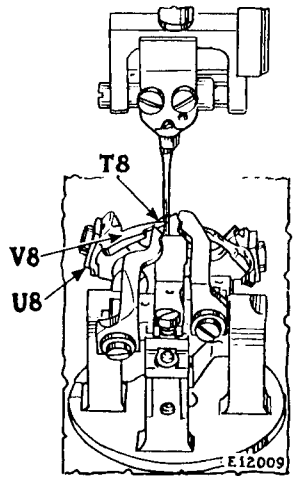
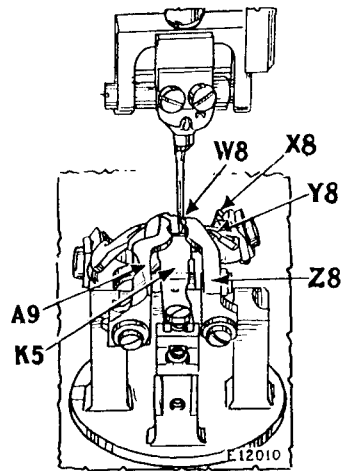
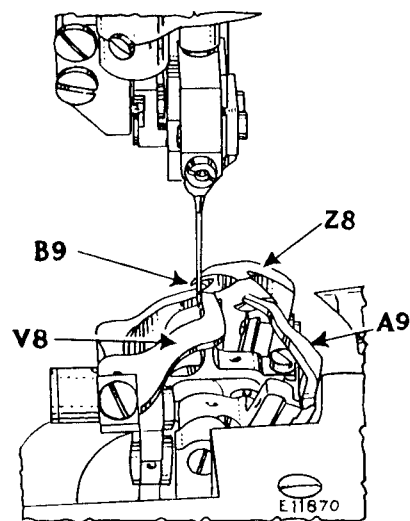

Fig. 14. Showing Correct Timing of Non-Threaded Looper
Fig. 15. Showing Correct Timing of Threaded Looper
Fig. 18. Showing Correct Relative Positions of Loop Retainer and Non-Threaded Looper
When changing the width of bight or lateral throw of the needle, it will be necessary to adjust the loop retainer (A9, Fig. 15) and the non-threaded looper (V8, Fig. 14), as instructed below and on pages 34 and 36.
When replacing loopers, first remove work clamp plates and throat plate (12, Fig. 4), then place wrench on pattern wheel clamping nut (S5, Fig. 9) and turn until stop lever operating plate (Z5, Fig. 9) rides on the pattern wheel ring (R5, Fig. 9), allowing the machine to be turned by hand. Place non-threaded looper (V8, Fig. 14) on seat of looper rocker (U8, Fig. 14) and turn machine until the needle bar, after descending to its lowest point, has risen so that the **lower timing mark** on needle bar is even with top of top needle bar bushing, and the point of the non-threaded looper has advanced to center of a true needle. At this position, the point of the non-threaded looper should be
adjusted to centre of needle, as shown at T8 in Fig. 14, and adjusted sidewise so that it just clears the needle.
The needle guard (K5, Fig. 15) should be set as close as possible to the needle without deflecting it. To set the needle guard in the correct position, loosen its two screws and move the needle guard forward or backward, as required, then securely tighten the two screws.
Turn hand wheel over until looper (Y8, Fig. 15) can be inserted on looper rocker seat (X8, Fig. 15), then turn machine until the needle bar, after descending to its lowest point has risen so that the **lower timing mark** on needle bar is even with top of top needle bar bushing and the point of the threaded looper has advanced to the centre of the needle. At this position, the looper point should be adjusted to centre of needle, as shown at W8 in Fig. 15, and adjusted sidewise so that it just clears the needle.
It is first advisable to adjust the right hand loop retainer (Z8, Figs. 15 and 17). The right hand loop retainer should be set in height so that it just clears the threaded and non-threaded loopers, or so that there is sufficient space between the top side
striking or dragging against the further side of the loop held upon the non-threaded looper, as shown in Fig. 18.
To replace and adjust left hand loop retainer (A9, Fig. 18), first obtain about the proper amount of bight required by the needle as instructed on page 33. This loop retainer should be set in height so that there is just sufficient space between the top side of the threaded looper and the underside of the loop retainer for the thread to pass through. It should also be adjusted side-wise so that, as the needle descends, it just clears it on the side, as shown in Fig. 16, which shows a side and top view of the left hand loop retainer correctly adjusted. The left hand loop retainer should be adjusted forward or back so that the needle in descending will penetrate the loop held suspended on its horn.
The above adjustment of the adjusting nuts (G2) on the looper driving bar (H2) should position the loopers correctly so that the point of the threaded looper (Y8, Fig. 15) and non-threaded looper (V8, Fig. 14) will be at the center of the needle on their respective strokes when the needle bar has risen, so that the lower timing mark on needle bar is even with the top of needle bar bushing. It may be found that the point of one of the loopers is ahead or back of the center of the needle. If such is the case, make sure that the distance between the points of the loopers is  $\frac{5}{16}$ " (measure by passing a  $\frac{5}{16}$ " shaft between the points so that the shaft just drags upon each of the points as the shaft is passed between). Then readjust the adjusting nuts (G2, Fig. 3) for the looper driving bar (H2, Fig. 3) up or down, as the case may be, to bring the point of the looper to the center of the needle. Any adjustment of the looper driving bar moving the looper to or from the center of needle will throw the other looper in the opposite direction, therefore each looper should be checked with respect to its own dip of the needle.
The loop retainer driving bar adjusting nuts (A2 and C2, Fig. 3) should now be positioned to raise or lower the driving bar (8), thus positioning the loop retainer seat on the carrier (O, Fig. 3) in a vertical position when loop retainer slide (B2, Fig. 3) is at its extreme throw. When the correct position of loop retainer driving bar is obtained, it will bring the point of the right hand loop retainer (Z8, Fig. 15) just to the further edge of the non-threaded looper (V8, Fig. 14) as the non-threaded looper advances and the right hand loop retainer remains stationary. Should the right hand loop retainer overlap or fail to come up to within a few thousandths of the further edge of the non-threaded looper, it will be necessary to adjust the loop retainer by removing or adding shims, as referred to on page 37. After making the adjustments to the looper driving bar (H2, Fig. 3) and the loop retainer driving bar (8, Fig. 3), ratchet the machine as referred to on page 61 to see that there is no bind to the adjusting nuts as the looper bracket (M2, Fig. 3) is rotated.
When replacing a looper driving crank (D2, Fig. 3) to the looper frame (W, Fig. 3), position the looper driving crank gear in proper mesh with the looper driving gear so that the timing marks on each gear are in line with each other. Turn the looper driving crank until the set screw on the crank gear is downward and in direct line with the screwdriver hole in the bottom edge of the looper frame (W, Fig. 3) and holding the driving gear and crank gear in this position, turn the looper driving crank (D2, Fig. 3) so that the  $\frac{3}{16}$ " hole (E2, Fig. 3) in its flange is to the left and the lower edge of hole is over and exactly in line with the top edge of the left hand counterbored screw hole (F2, Fig. 3) in the flange of the looper driving crank bushing which is directly under the flange of the looper driving crank (D2) when looper frame (W) is in an upright position, then slightly tighten set screw. Now place looper frame (W) on the machine as instructed on page 37. After making sure that the looper driving bar (H2) is assembled with the lower adjusting nut (G2, Fig. 3) flush with the lower end of the looper driving bar (H2), as instructed on page 39, set the non-threaded looper (V8, Fig. 18) so that the forward edge of the non-threaded looper (V8) seat is flush with the forward edge of the seat on the looper carrier (P8, Fig. 5). Turn the hand wheel (D, Fig. 2) until the needle bar, after descending to its lowest point (on the depth stitch or vibration nearest to the non-threaded looper) has risen so that the lower timing mark on needle bar is even with the top of the top needle bar bushing and advance or retard the looper driving crank (D2, Fig. 3) a very slight amount until the point of the non-threaded looper (V8, Fig. 18) is opposite the center line of the needle. (This may be done by turning the hand wheel (D) over until it is noted that the looper driving crank remains stationary and holding the hand wheel (D) in this position and with a punch striking the  $\frac{3}{16}$ " hole in the flange of the looper driving crank.) Now turn the hand wheel (D) over until the needle bar, after descending to its lowest point (on the slit stitch or vibration nearest to the threaded looper), has risen so that the lower timing mark on needle bar is even with the top of top needle bar bushing, then position the point of the threaded looper (Y8, Fig. 15) so it is opposite the center line of the needle. Carefully measure the distance between the points of the non-threaded looper (V8, Fig. 18) and the threaded looper (Y8). Should the distance be greater than  $\frac{5}{16}$  inch, turn the looper driving crank (D2, Fig. 3) a slight amount in a counter clockwise direction while holding the hand wheel (D) or should the distance be less than  $\frac{5}{16}$  inch, turn the looper driving crank (D2) a slight amount in a clockwise direction. Now proceed as before to bring the needle bar to the timing mark on the depth stitch